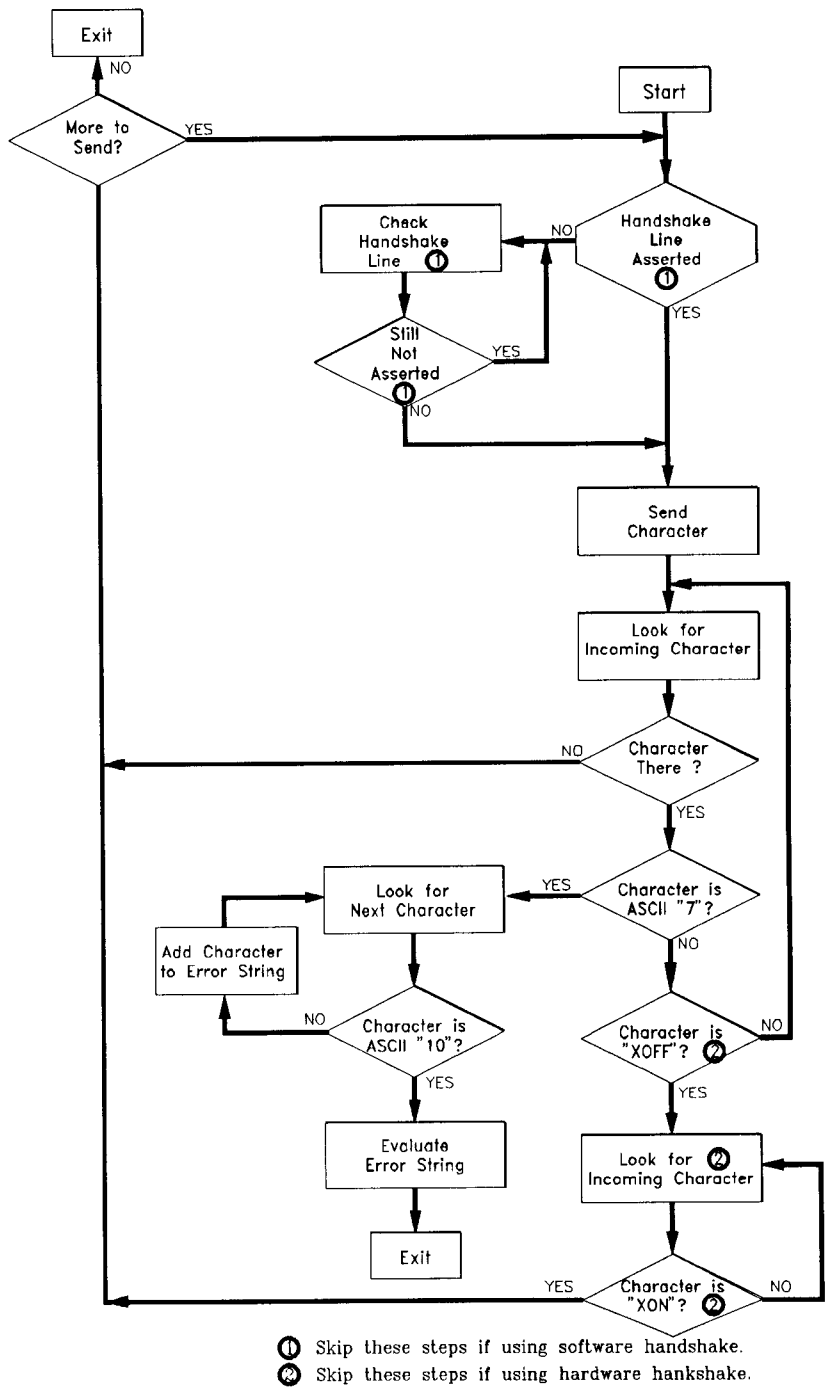

Figure 5-3. Manually Downloading a Device Driver
2. Transfer the driver file over the RS-232 interface using a program that follows the outline in figure 5-3.